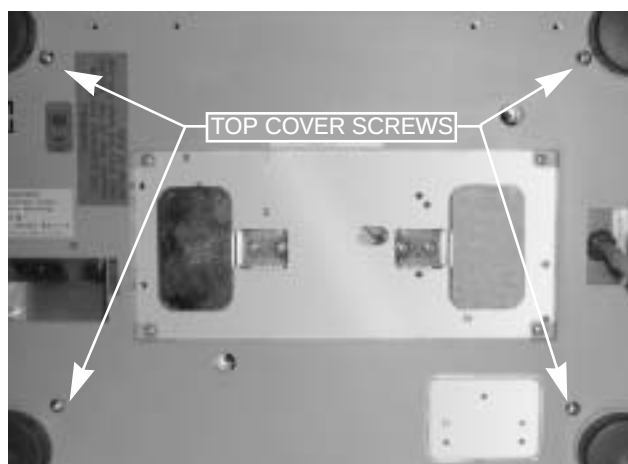

Figure 2-7. Location of Top Cover Screws
5. Place scale on side. Remove four top cover screws (shown in Figure 2-7). Set scale on legs and remove top cover.
3. Turn scale on side. Remove the four panhead machine screws for top cover (Figure 2-7). Set scale on its four legs and remove top cover.